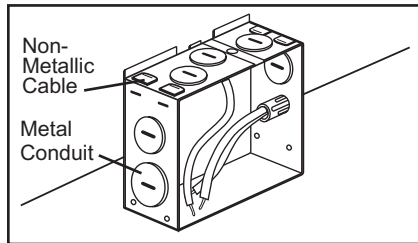

Figure 9
Step 2. Remove wiring box cover. Remove the appropriate knock-out(s) to accommodate the type of electrical service to be used/allowed by your local electrical code (Fig. 9):